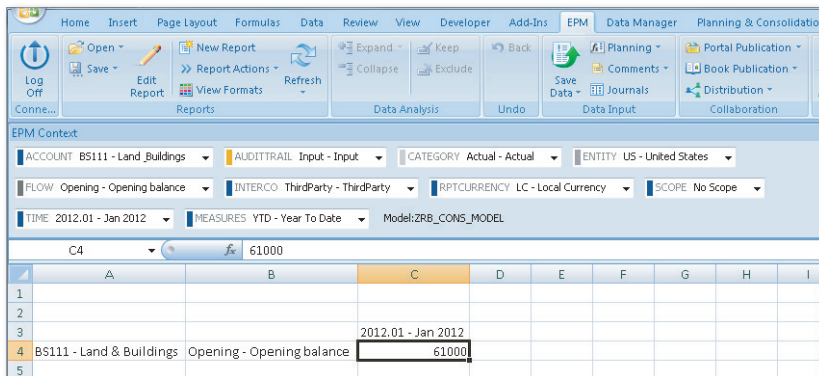

Figure 9.9 Configuring Carry Forward Balance Business Rule—Part I
9. After executing the package, report the opening balance (OPENING flow) for the LAND & BUILDINGS account, entity United States, and January 2012. The carry forward balance script has generated the opening balance entries for January 2012. The closing balance for December 2011 has been copied to the opening balance for January 2012 (Figure 9.9).